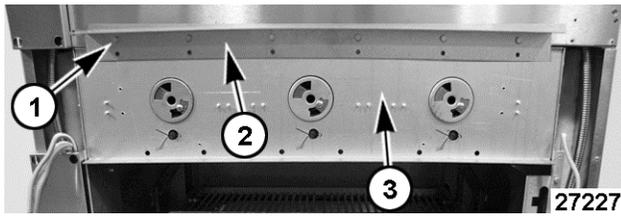

Fig. 15
- Loosen screws [1] Fig. 15 (qty 6) by several turns that secure the burner support [2] and brace [3] Fig. 15 to broiler frame.